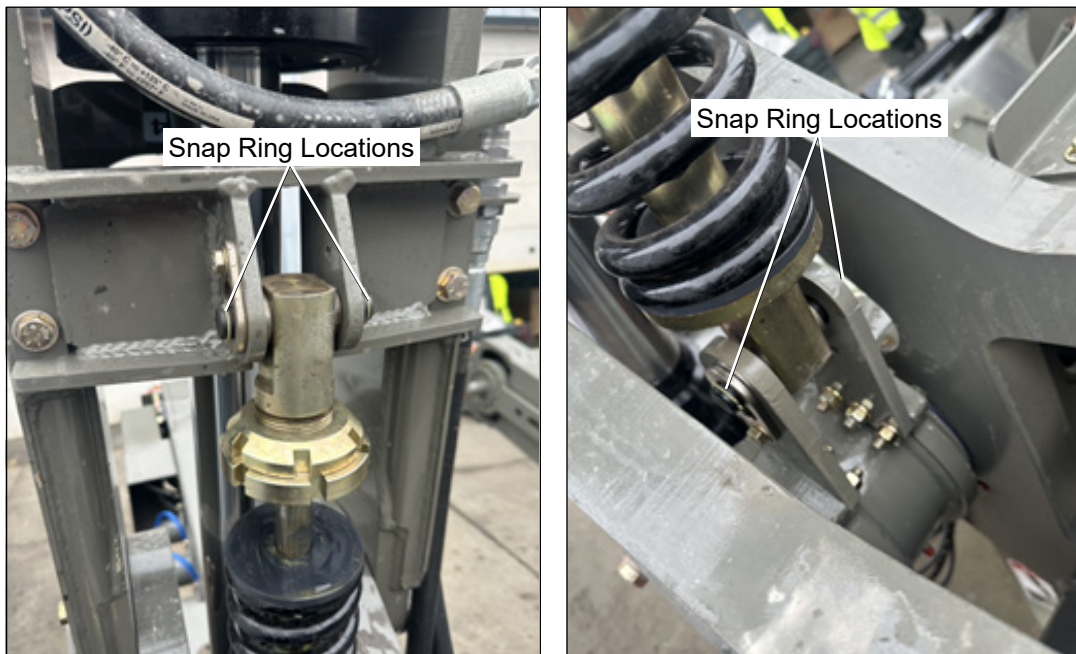

Figure 2 — Snap Rings Present
5. Inspect the trunnion spring assembly pins to verify whether the snap rings are present or not (refer to Figures 2 and 3). There are two trunnion spring assemblies per LP108-ES unit. There should be eight snap rings in total (two snap rings on each pin and one pin at each assembly end).